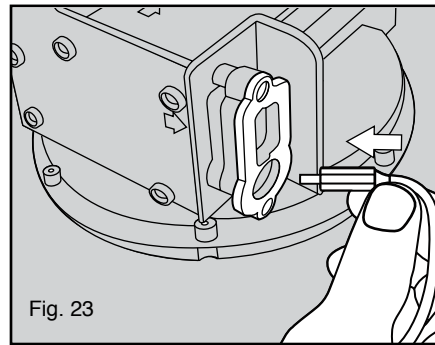

Fig. 23
24. Install the power cable plug into the power receptacle on the motor module (see figure 23).